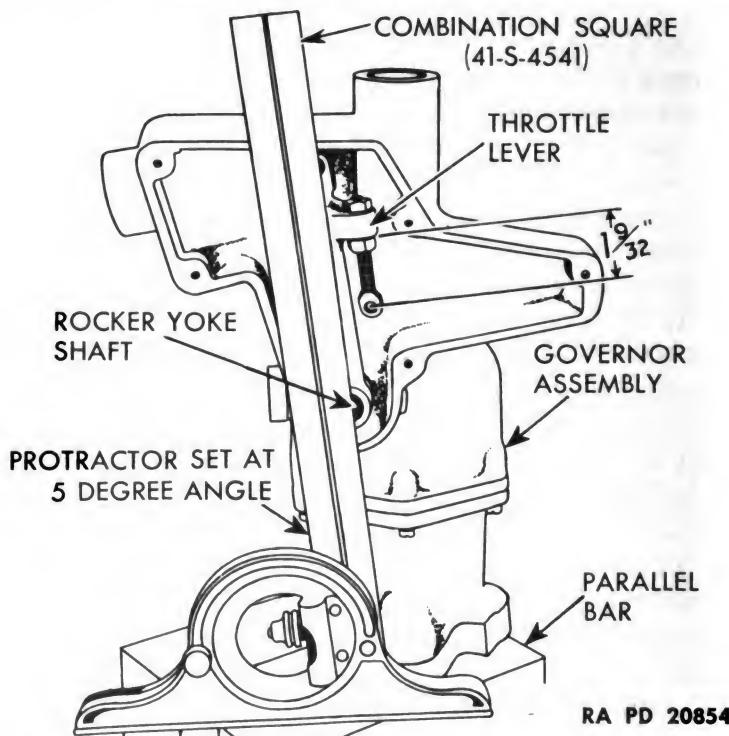

Figure 124 — Throttle Lever Positioned for Tapered Pin Hole
(6) **THROTTLE LEVER** (fig. 121). When new throttle lever and new rocker yoke shaft are installed, it is necessary to drill and ream a hole in both for a tapered pin. Have the governor assembly assembled completely except for the throttle lever, spring, and horizontal adjusting screw. Position the throttle lever on the rocker yoke shaft so that it will contact the inside wall of the lever compartment nearest the throttle connecting rod hole. To position the lever correctly, set the base on parallel bars on a surface plate. Adjust a protractor (41-S-4541) to read 5 degrees. Set the protractor on the parallel bars or surface plate, and force the throttle lever in a clockwise direction until the center line of the lever is parallel to the protractor scale (fig. 124). Insert a drill through the slotted plug tapered hole in the body, and drill a hole through the lever and shaft with a No. 25 drill. Ream with a No. 1 tapered reamer to fit tapered pin.
a. **Vertical Adjusting Screw.** Turn two lock nuts on vertical adjusting screw until it measures $1\frac{9}{32}$ inches from the center of the eye hole in screw to the face on throttle lever (fig. 124). Tighten lock nuts securely when adjustment is correct. Also see subparagraph c following—
b. **Connecting Rod.** Refer to paragraph 39 x (3).